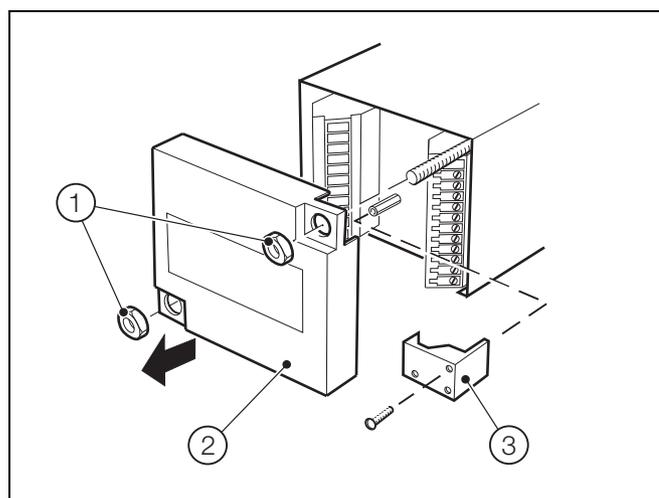

Fig. 4.2 Access to Terminals – Panel-mount Analyzer
Referring to Fig. 4.2:
- Refer to Fig. 4.2, page 12 for access to terminals.